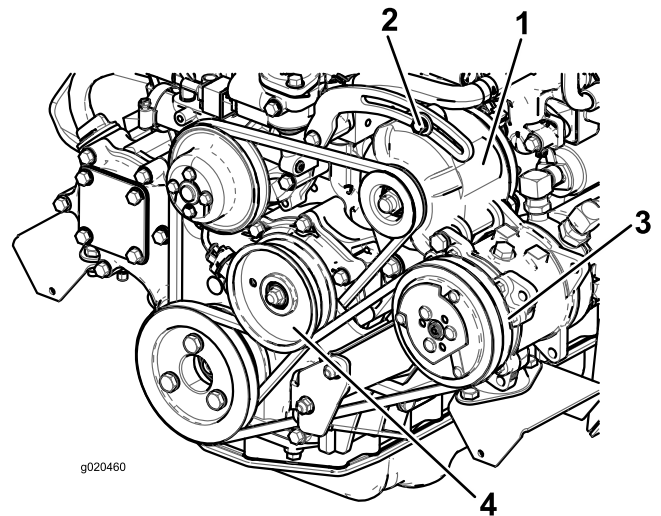

Figure 69
Check the condition and tension of the belt (Figure 69) after every 100 operating hours.
2. If the deflection is not 10 mm (3/8 inch), loosen the alternator mounting bolts (Figure 69). Increase or decrease the alternator belt tension and tighten the bolts. Check the deflection of the belt again to ensure that the tension is correct.
2. If the deflection is not 10 mm (3/8 inch), loosen the idler pulley mounting bolt (Figure 69). Increase or decrease the compressor belt tension and tighten the bolt. Check the deflection of the belt again to ensure that the tension is correct.